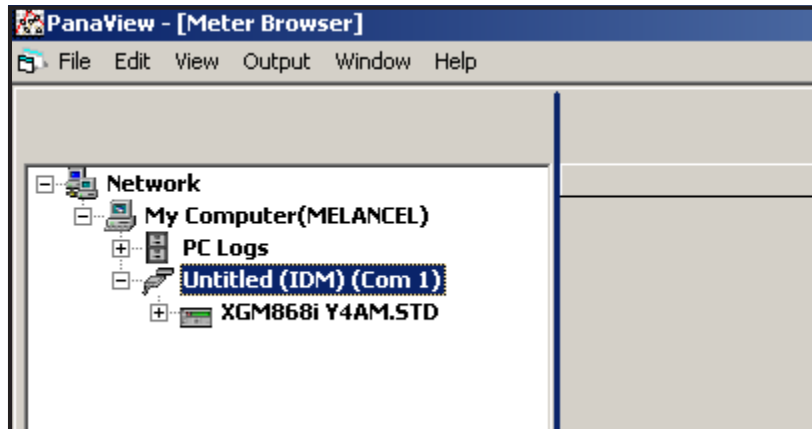
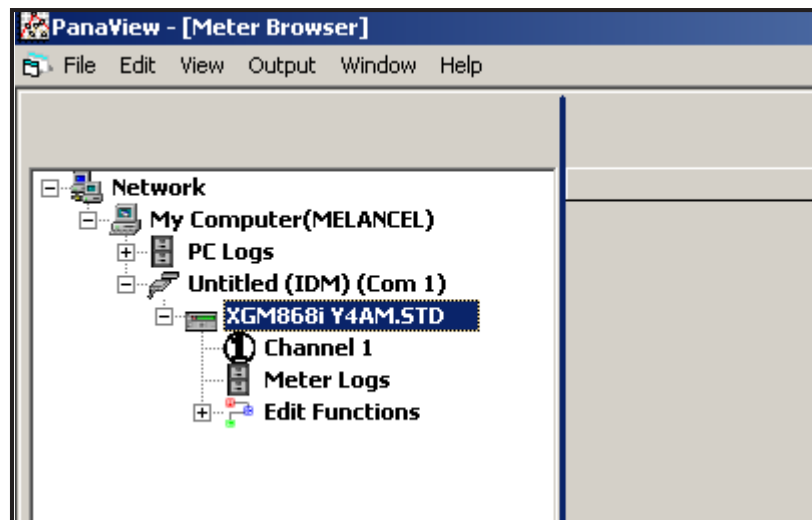

Figure 37: Updated Network Tree
Figure 39: Meter Tree with *Edit Functions* Option
If the initialization is successful, the *Meter Browser* shows a listing similar to Figure 37.
1. From the meter tree in the *New Meter Browser* (see Figure 37 on page 93), click on the XGM entry. The screen now appears similar to Figure 39.